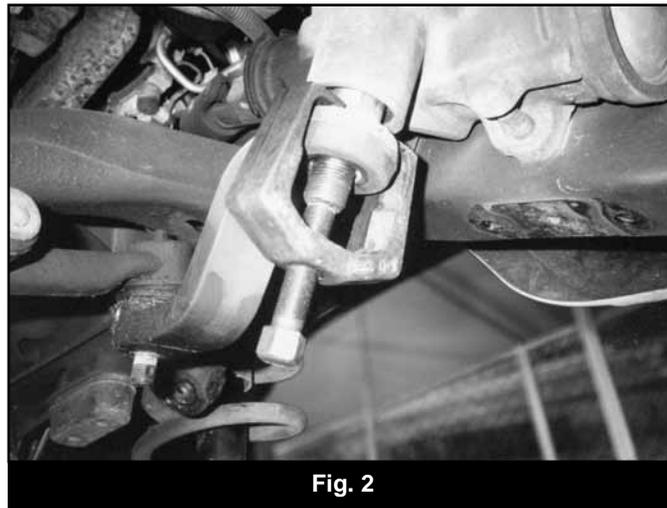

Fig. 2
12. Remove the pitman arm nut from the sector shaft. Note the orientation of the pitman arm and remove the arm from the sector shaft using the appropriate puller (Fig 2).